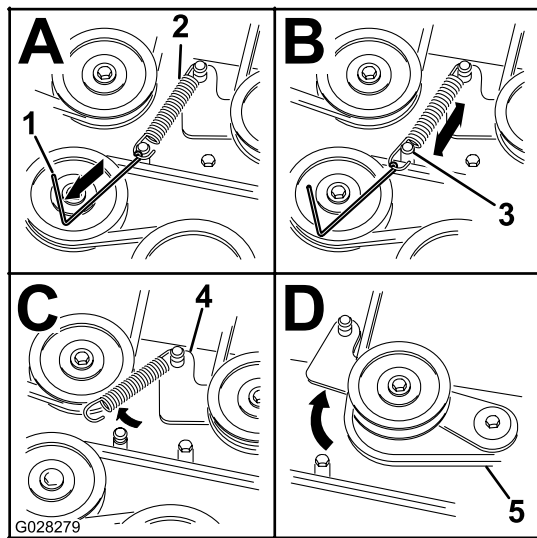

Figure 49
7. Using a spring removal tool, (Toro Part No. 92-5771), remove the idler spring from the deck post to remove tension on the idler pulley (Figure 49).
10. Install the new belt around the mower pulleys and the clutch pulley under the engine (Figure 49).
11. Using a spring-removal tool, (Toro Part No. 92-5771), install the idler spring over the deck post and placing tension on the idler pulley and mower belt (Figure 49).